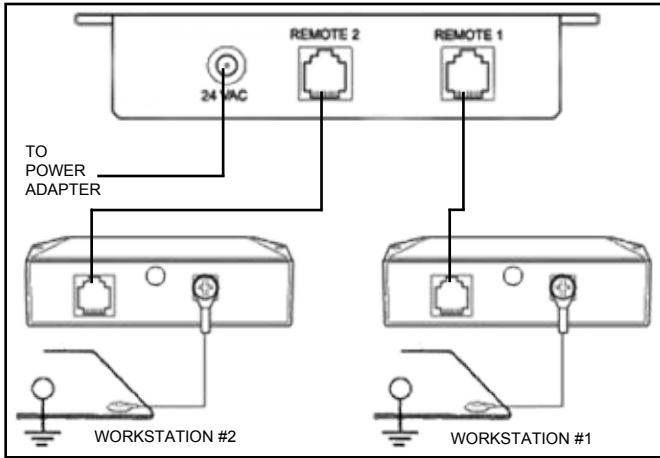

Figure 4. Wiring connection instructions for the 19232 / 19233 monitor control unit.
Figure 4 shows the monitor control unit as it is viewed from the rear, with the work surface wiring in place.
1. Use the rear phone jack connections and connect the Satellite Remote Units to the base unit with the phone cables. See Figure 4 for wiring connection instructions.
4. Confirm that worksurface surface resistance is 1×10^7 ohms or less. Connect the ring terminal end of the worksurface ground cord included with the unit to the screw on the back of the satellite. Snap the other end to the worksurface grounding point as shown in Figures 4 and 5.